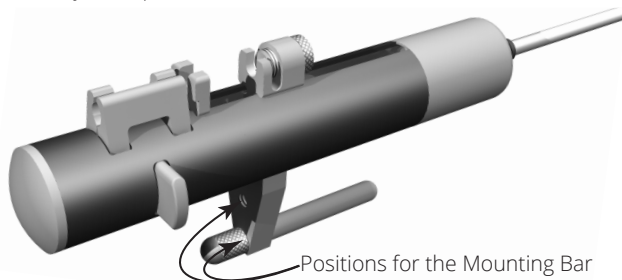

Fig. 11—Unscrew the mounting rod to reposition it.
1. Locate the Phillips-head adjustment screw for the collar stop. It is located immediately below and behind the collar stop, in the groove with the long drive screw. (See Fig. 11.)